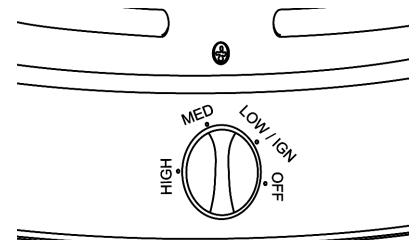

Figure 10 – Heater Control Knob
4. Depress control knob and turn counterclockwise to LOW/IGN position to light burner (Figure 10).